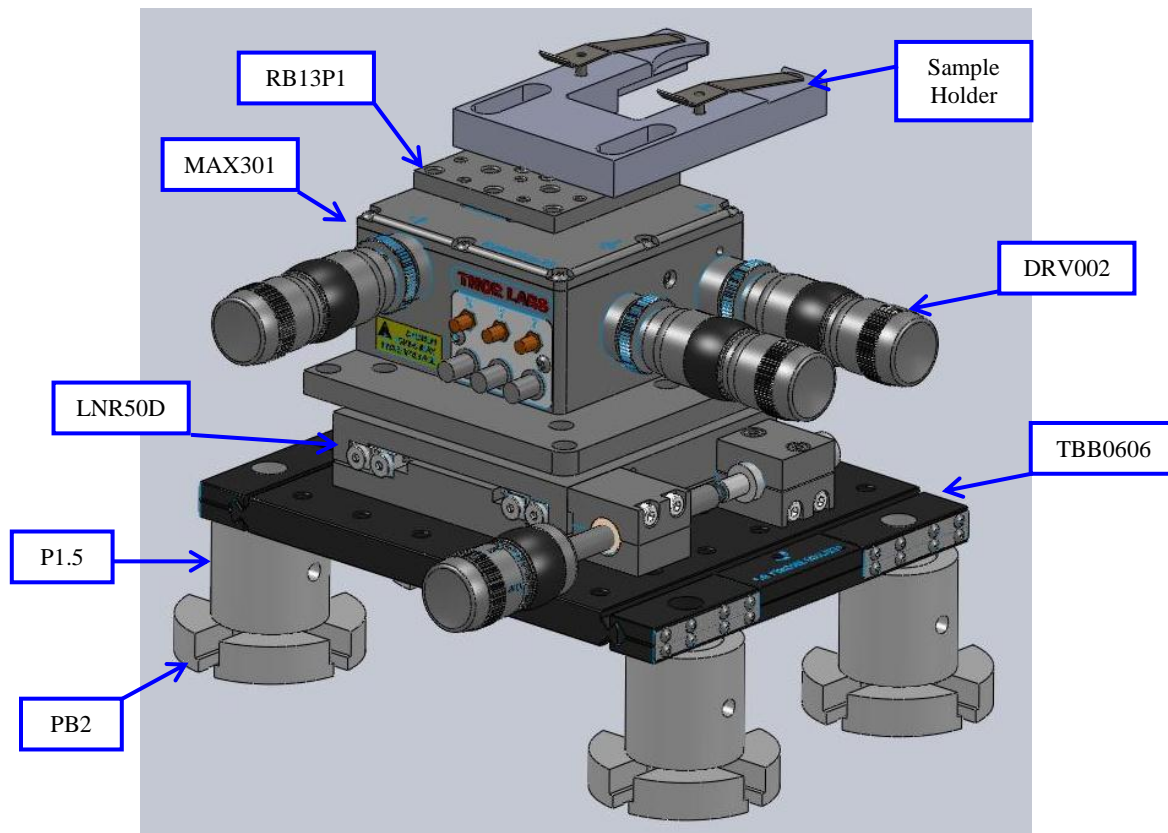

Figure 5.8.1: The sample stage and holder
2. Mount the LNR50D to the translating breadboard as shown in Figure 5.8.1.